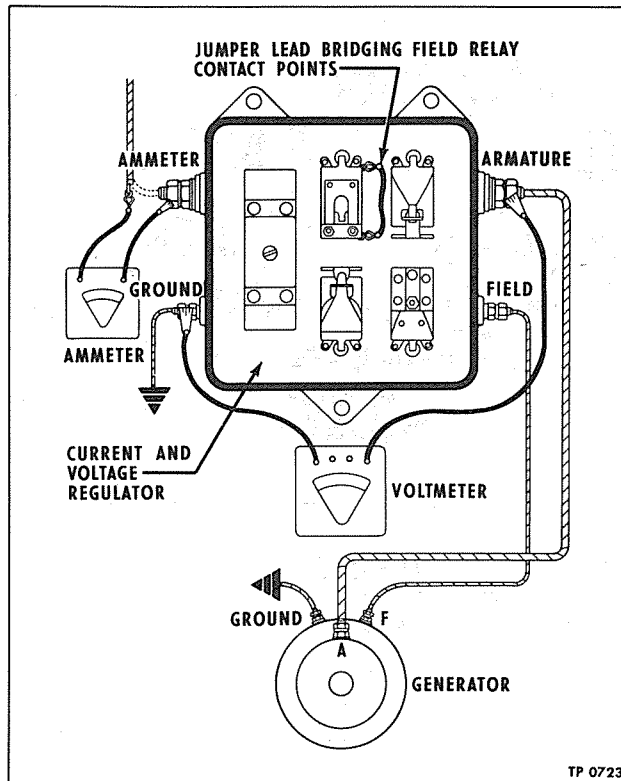

Figure 16—Meter Connections for Current Regulator Current Setting Check
1. Connect a test ammeter into circuit at regulator "ammeter" terminal, and bridge field relay contact points with a jumper lead to prevent it from operating (fig. 16).